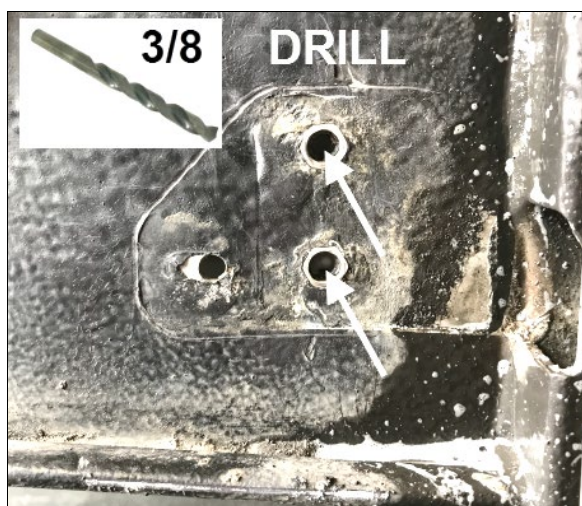

FIGURE 11: LOWER HINGE RIVNUTS
3. Remove the two rivnuts (two vertical holes) by drilling them using a 3/8in drill bit (Figure 11).